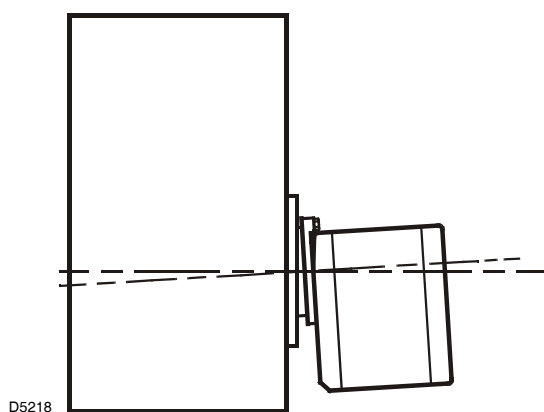

Fig. 7
- Verify that the installed burner is lightly leaned towards the button (Fig. 7).